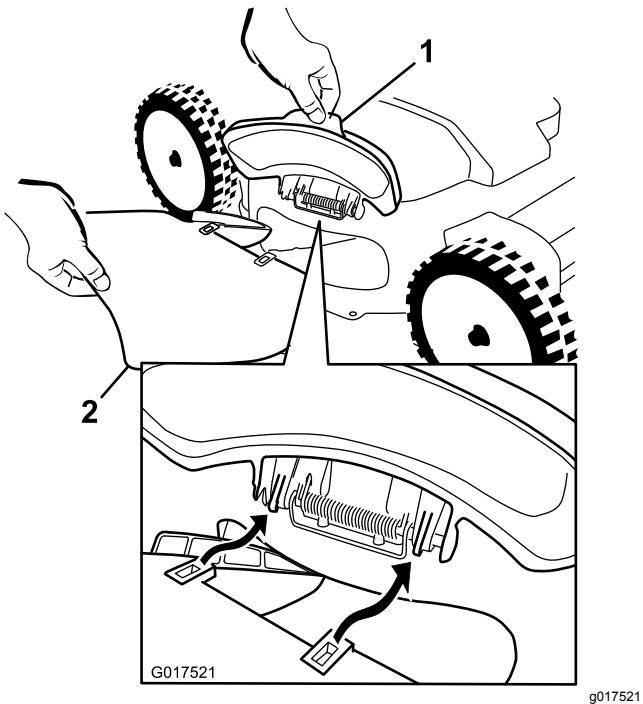

Figure 28
1. Lift open the side-discharge door (Figure 28).
2. Install the side-discharge chute as shown in Figure 28 and Figure 29, and close the door onto the chute.